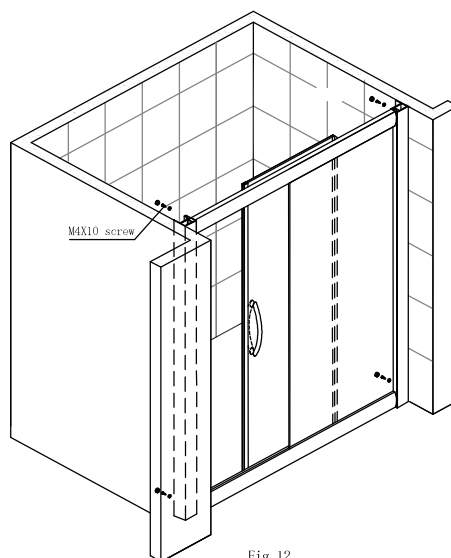

Fig. 12
(ENG) Drill a hole in 4-φ3mm on the connection between fixed door and wall connecting profile. And tighten them by M4x10 (2) screw. As Fig12.